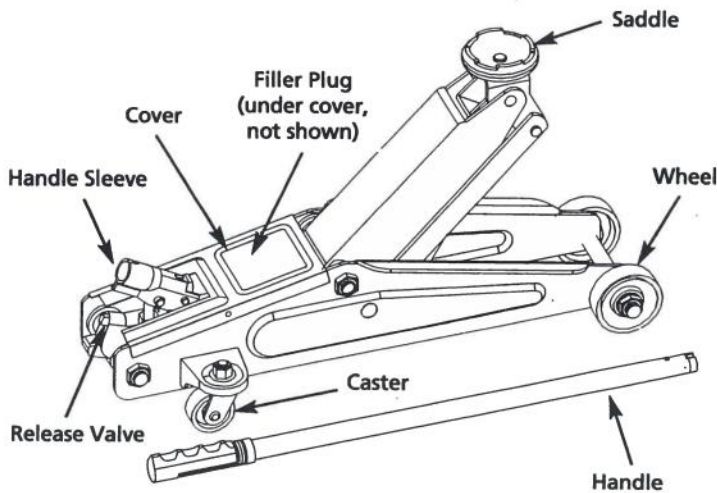

Figure 1 - Hydraulic Floor Jack Components for 3ZC65
Use Figure 1 or 2 as reference.
- Model 3ZC65. With notched end of jack handle (See Figure 1), close release valve by turning handle clockwise until it is firmly closed.
- Model 3ZC65. With notched end of jack handle (See Figure 1), slowly open release valve by turning handle counterclockwise no more than one full turn.